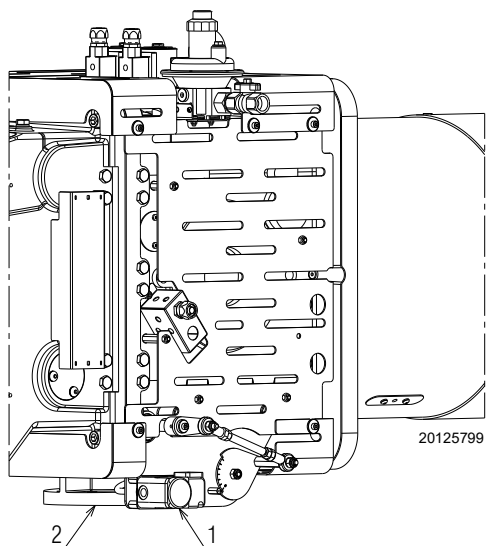

Fig. 20
The gas train is pre-arranged to be connected to the burner at the flange 2)(Fig. 20).
Gas pressure measured at test point 1)(Fig. 20), with:
Pressure loss at gas butterfly valve 2)(Fig. 20) with maximum opening: 90°.
- subtract the pressure in combustion chamber from the gas pressure measured at test point 1)(Fig. 20).
Gas pressure at test point 1)(Fig. 20) = 61.2 mbar
To calculate the required gas pressure at test point 1)(Fig. 20 on page 19), set the maximum modulating output required from the burner operation:
- read, on the right (column 1), the pressure at the test point 1)(Fig. 20 on page 19).
pressure required at test point 1)(Fig. 20 on page 19).